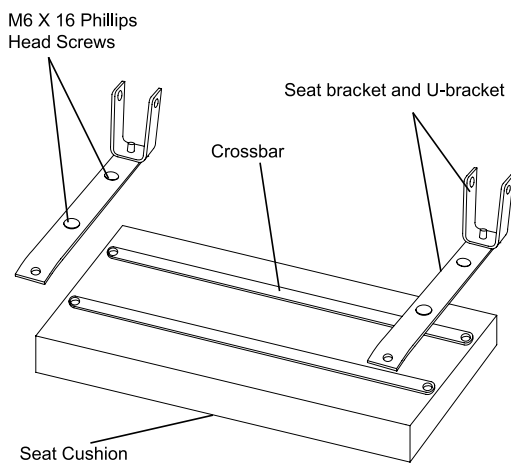

Figure 1 - Attaching U-brackets
1. With the Seat Cushion facing down, align the holes of the Crossbars with the seat. Then align the holes of the Seat bracket and U-braket and attach with four M6 x 16 Phillips Head Screws as shown in Figure 1.